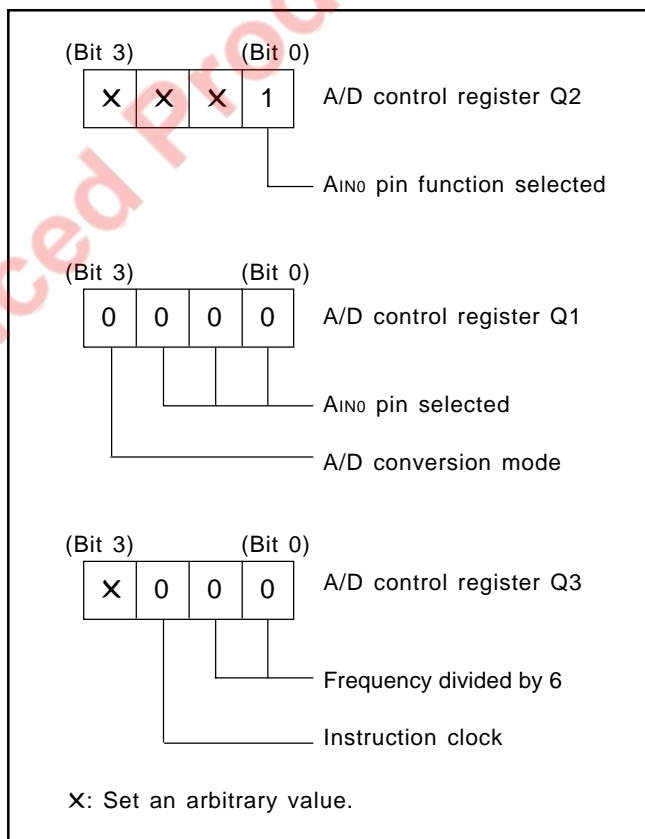

Fig. 37 Setting registers
- ① Select the AIN0 pin function with the bit 0 of the register Q2. Select the AIN0 pin function and A/D conversion mode with the register Q1. Also, the instruction clock divided by 6 is selected with the register Q3. (refer to Figure 37)
- ② Execute the ADST instruction and start A/D conversion.
- ③ Examine the state of ADF flag with the SNZAD instruction to determine the end of A/D conversion.
- ④ Transfer the low-order 2 bits of converted data to the high-order 2 bits of register A (TALA instruction).
- ⑤ Transfer the contents of register A to $M(Z, X, Y) = (0, 0, 2)$.
- ⑥ Transfer the high-order 8 bits of converted data to registers A and B (TABAD instruction).
- ⑦ Transfer the contents of register A to $M(Z, X, Y) = (0, 0, 1)$.
- ⑧ Transfer the contents of register B to register A, and then, store into $M(Z, X, Y) = (0, 0, 0)$.